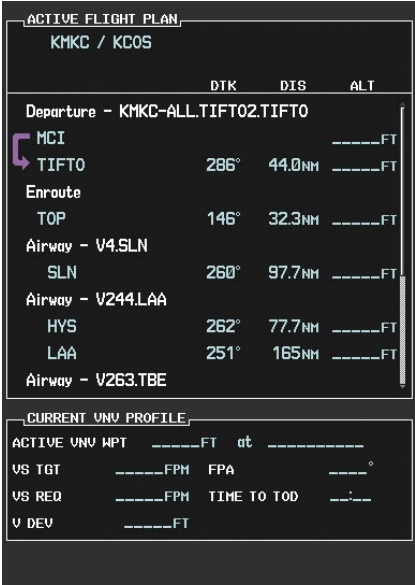

Figure 5-108 V4 is Loaded in the Flight Plan
l) V4 is now loaded into the flight plan as shown in Figure 5-108.